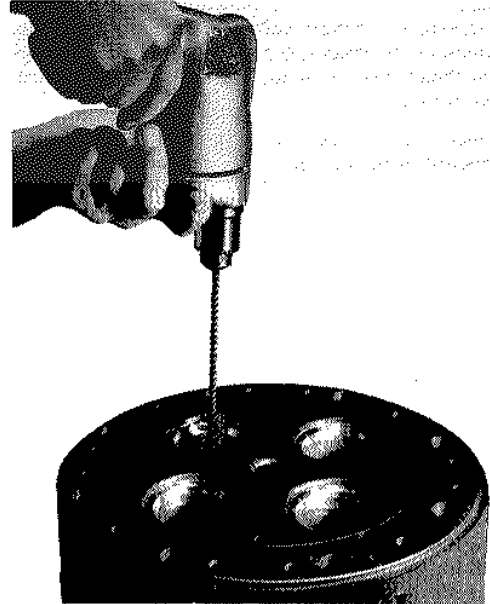

Fig.2-5 - Cleaning Valve Guides
4. Using valve guide cleaner and a 115 volt drill, clean guide as shown in Fig. 2-5. Any evidence of galling inside of guide must be entirely removed by reaming, or the guide should be replaced. The I.D. of the guide should not exceed the limit when measured at the bottom and 12.7 mm (1/2") from top and bottom.